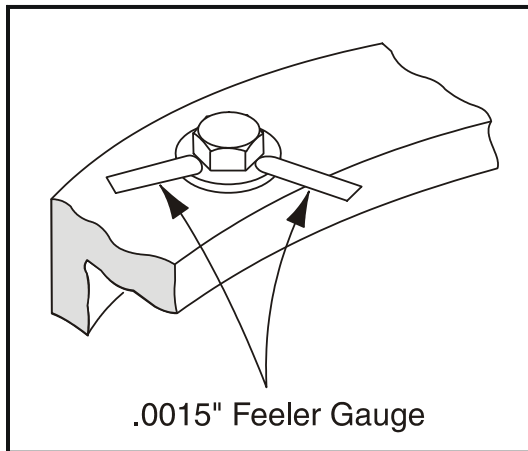

Figure 3-61. Swing Bolt Feeler Gauge Check
- b. At the positions indicated on Figure 3-61. try to insert a 0.0015 in. feeler gauge between the bolt and hardened washer at the arrow indicated position.
- d. At the position indicated on Figure 3-61., try and insert the 0.0015 in. feeler gauge between the bolt head and hardened washer at the arrow indicated position.